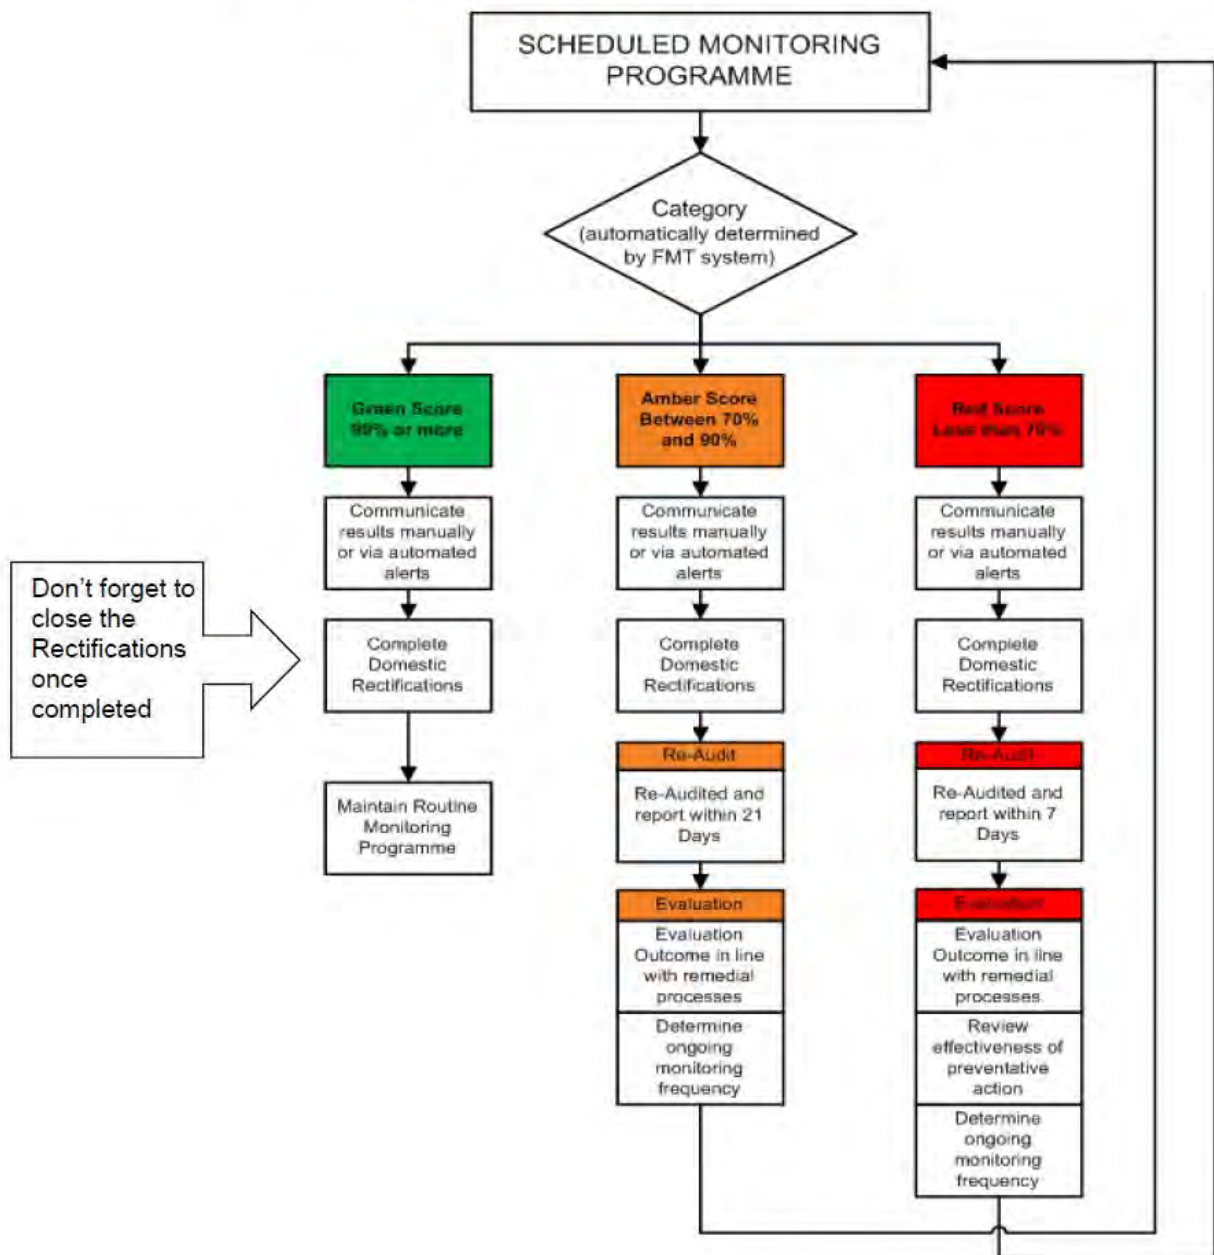

Figure 3: Domestic Red, Amber and Green Process
- 5.6 The Domestic process in the Framework (**Figure 3**) outlines that as well as carrying out Domestic rectification management and a re-audit for audits that score less than 90%, the service should also carry out an action plan. The purpose of action planning is to systematically investigate the cause of the non-compliant or partially-compliant audit and to identify actions that will provide solutions to the issues identified. Action